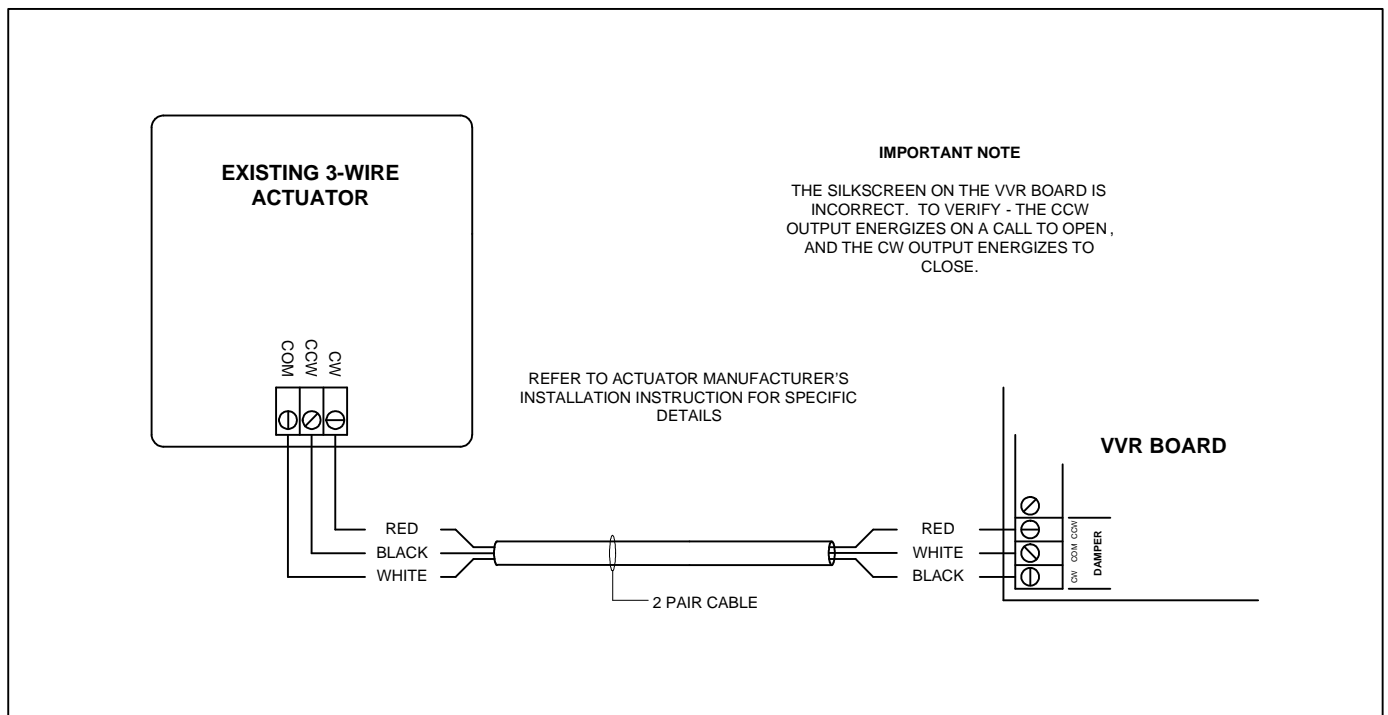

Figure 6: Wiring of Existing Actuator for Clockwise to Open
2. Connect the existing 3-wire floating actuator with 2-pair cable as shown in **Figure 6**.